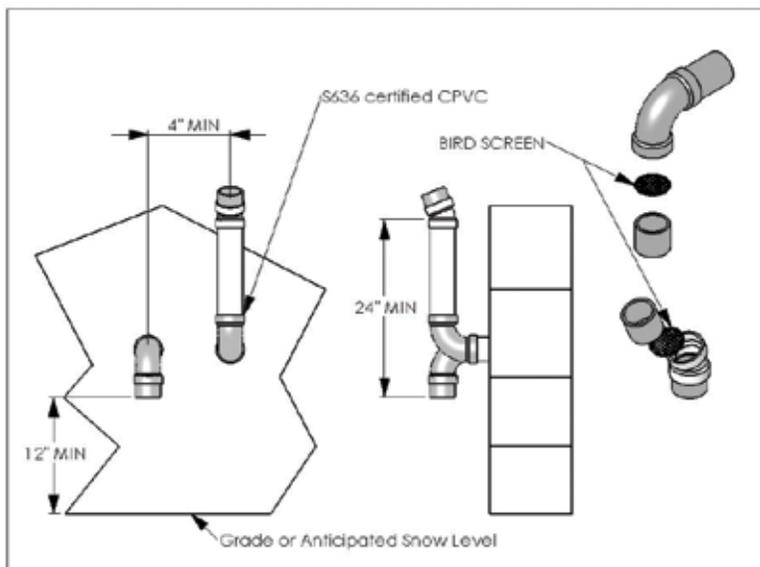

Figure 4: Sidewall vent termination - piping configuration
- The elevation of both pipes can be raised in "periscope style" after passing through the wall, then configured as in *Figure 4*, to gain required clearance.